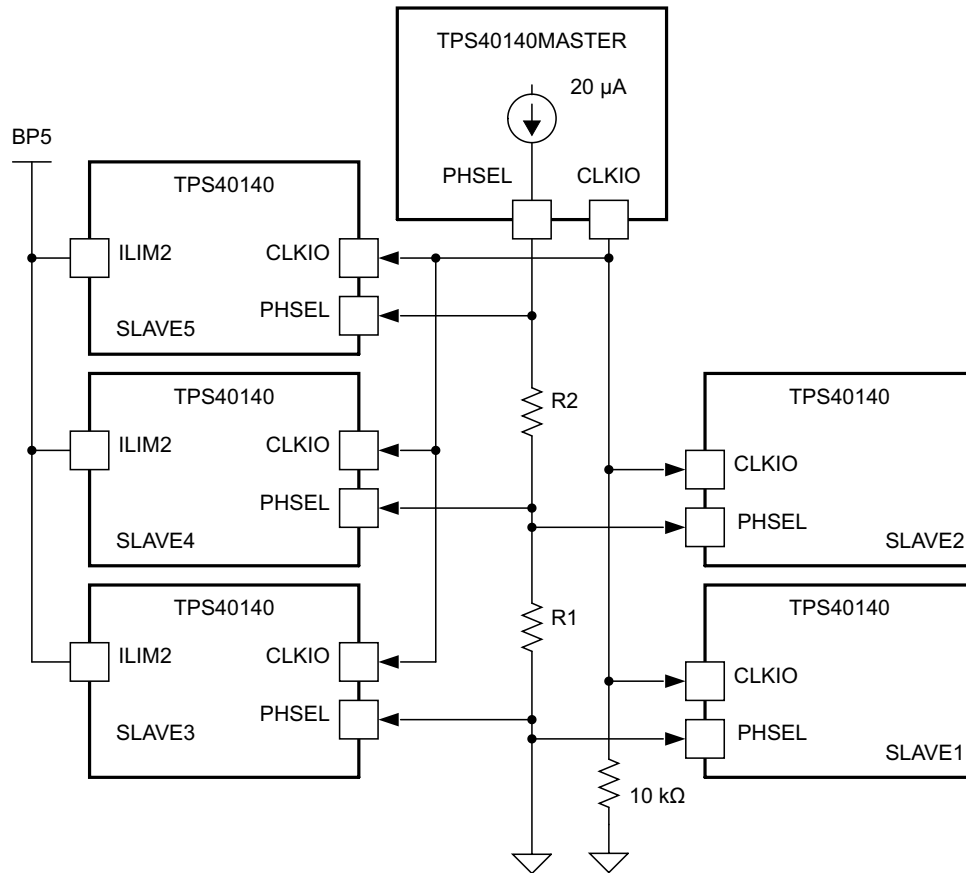
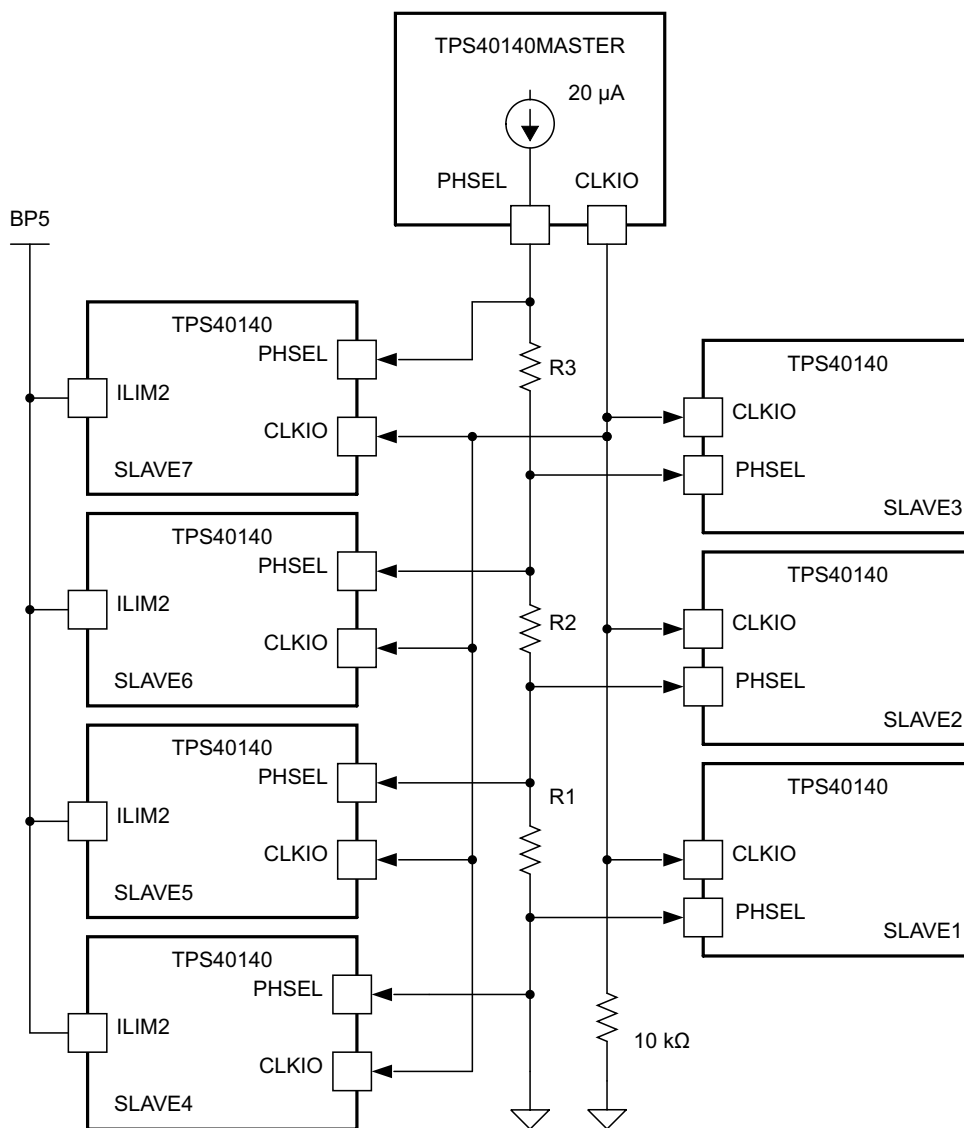
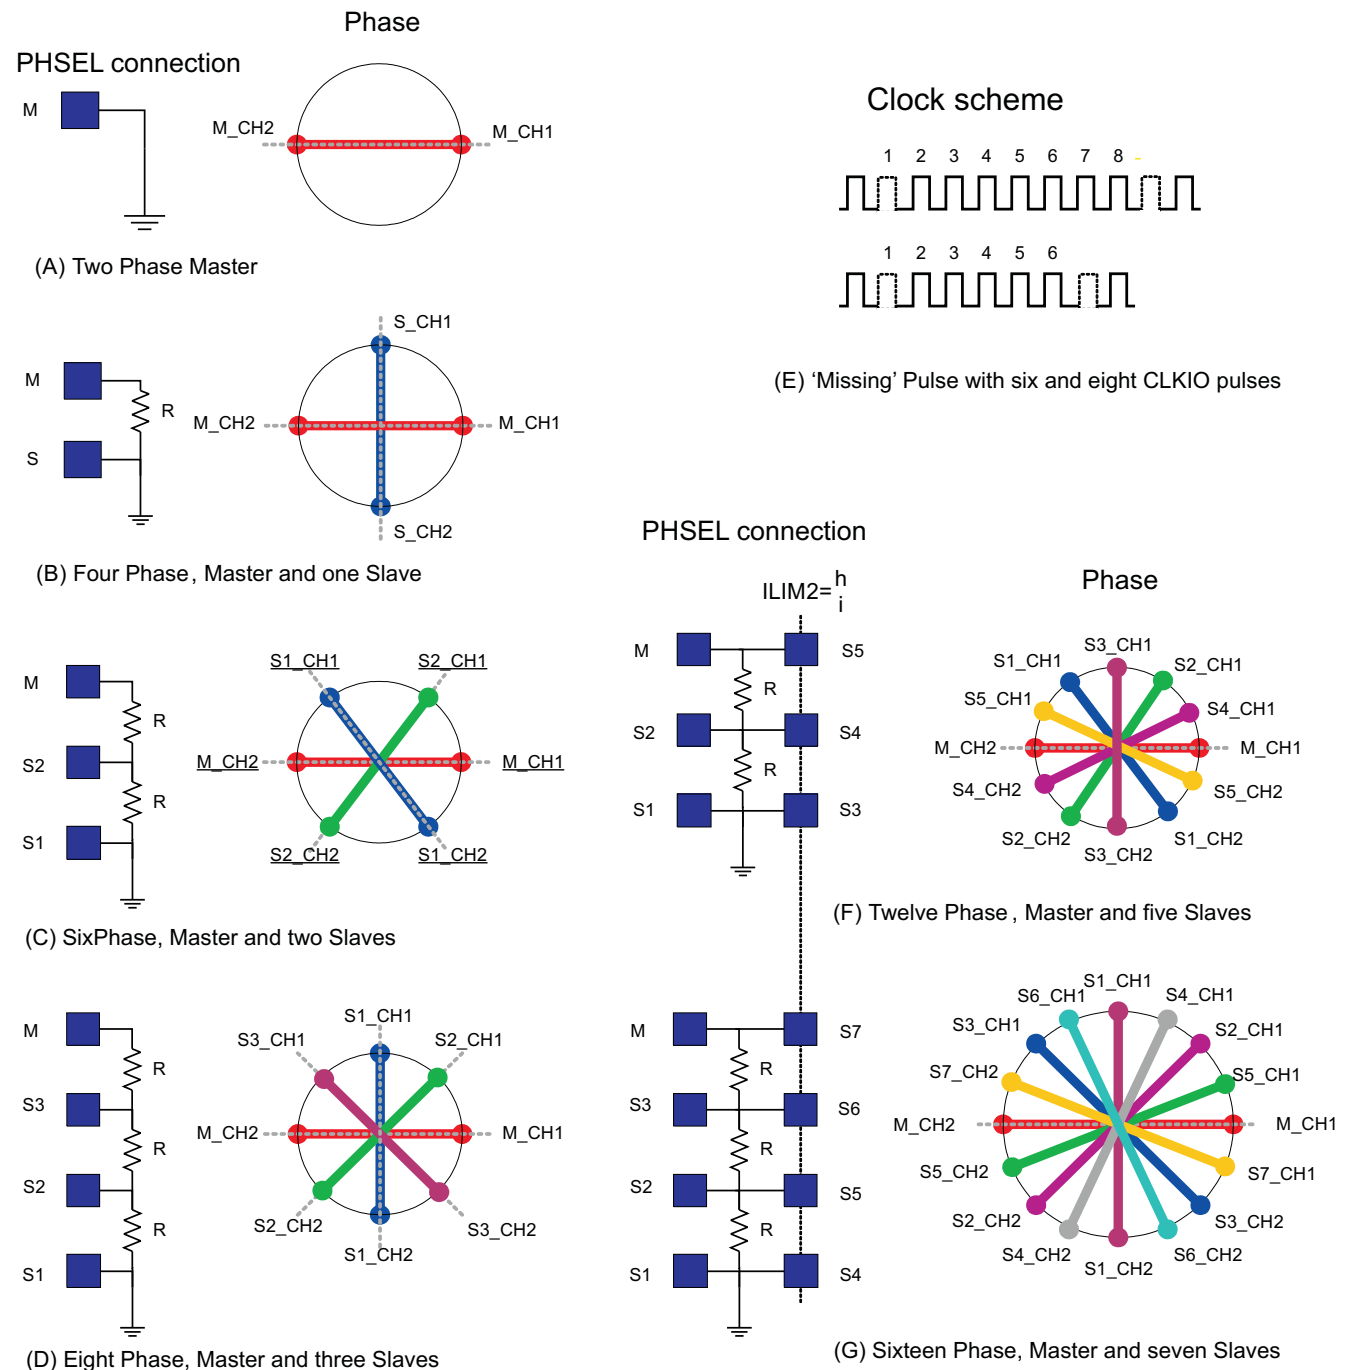

Figure 24. Master Controller and Five Slave Controllers, 12-Phases
Figure 25. Master Controller and Seven Slave Controllers, 16 Phases
Figure 26. Clock Phasing Summary
To further increase the total current capability to twelve phases, or to increase the number of outputs, five slave controllers can be added as shown in Figure 24.
If four slaves are desired, just delete one of the slaves from Figure 24. The interleaving is not perfect because there is be 30° between the master and three slaves. The deleted slave causes 60° between the two adjacent slaves. See Figure 26 for phasing details.
To further increase the total current capability to sixteen phases, or to increase the number of outputs, seven slave controllers can be added as shown in Figure 25.
In this configuration, the master senses that there are three slave controllers (due to the three resistors) and distributes an eight-phase CLKIO signal. Slave1, slave2, and slave3 are turned on at 90°, 45°, and 135° respectively as before with three slaves. However, to get sixteen phases with an eight-phase clock, both edges of the CLKIO signal are used to control the slaves. With the ILIM2 tied high on slave4, slave5, slave6, and slave7 they turn on at the rising edge of CLKIO, while the master and slave1, slave2, and slave3 turn on at the falling edge of CLKIO. If six slaves are desired, just delete one of the slaves from Figure 25. The interleaving is not perfect because there is 22.5° between the master and three slaves. The deleted slave causes 45° between the two adjacent slaves. See Figure 26 for a phasing details.
Figure 26 is a summary of the master and slave clock phasing. The master and the slaves can be selected to be a multi-phase, single output configuration and/or several independent output voltage rails, independent of the clocking.
The solid square boxes in Figure 26 represent the PHSEL pin of the master (M) controller or a numbered slave controller (S1-S7). The labels on the spokes of the wheels indicate a master Channel 1 and master Channel 2 (M_CH1 and M_CH2) and numbered slaves Channel 1 and slave Channel 2 (Sn_CH1 and Sn_CH2). The Channel 1 and Channel 2 of a given master or slave is always 180° out-of-phase.
The 3-phase system could also be configured with 1 channel of the master and 2 channels of the slave. Referring to Part (B) above, the 3 phases could be master CH1 or master CH2 and slave CH1 and slave CH2. In either of these configurations there is 90° between two of the channels and 180° between the other channel. The unused channel could be another independent output voltage whose clocking would occupy the phase not used in the 3-phase system. This philosophy can be used for any number of phases not shown in Figure 26, *Clock Phasing Summary*.